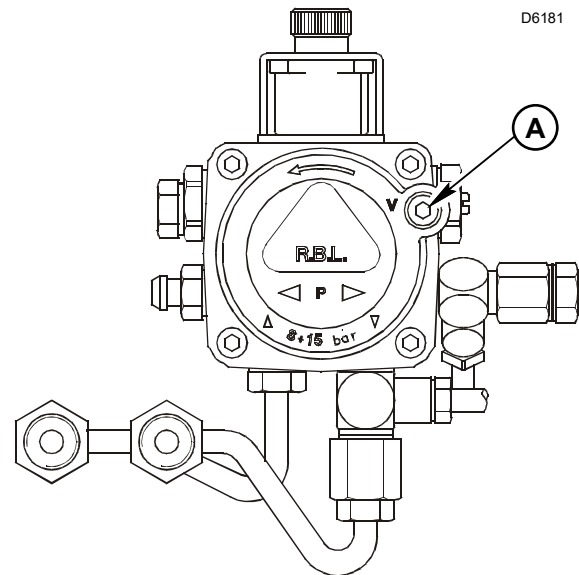

Fig. 15
To protect the pump gears, it is advisable to lubricate the pump prior to purging a lift system. Apply oil through the vacuum port (A)(Fig. 15).